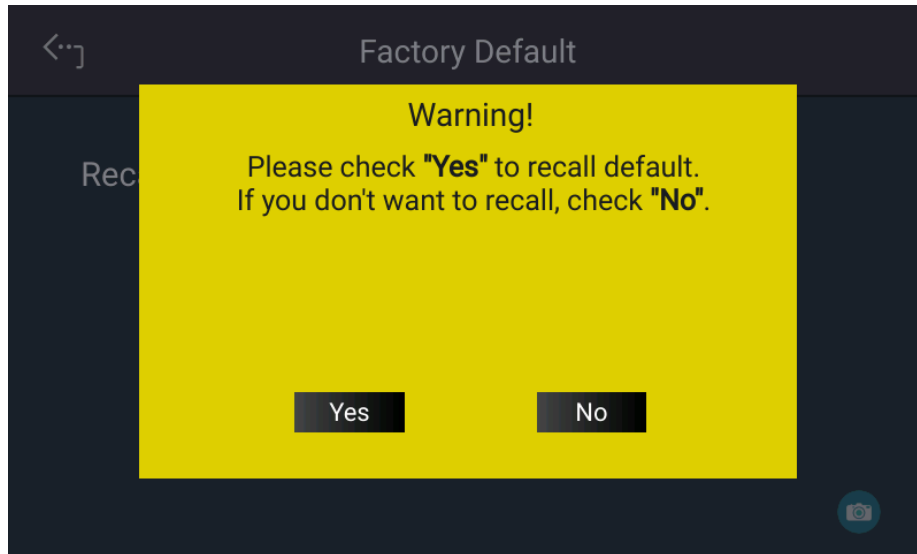

Figure 3-28
2. Tap Recall Factory Default. A warning message will prompt as Figure 3-28 shows. It will remain the last configuration settings saved by you if No is selected, and return all configurations to the factory default if Yes is selected.